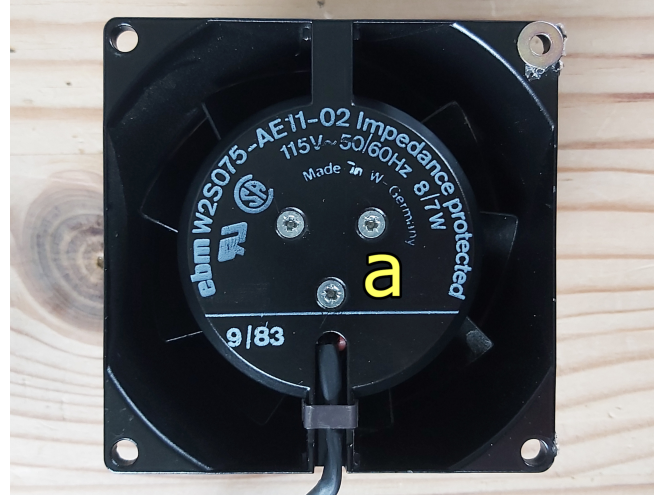

Figure 1.1: Adjust the blade assembly screws.
3. Undo the 3 bolts that hold the fan assembly in place and free the fan such that the 3 adjustment screws (a) are accessible (see Figure 1.1).